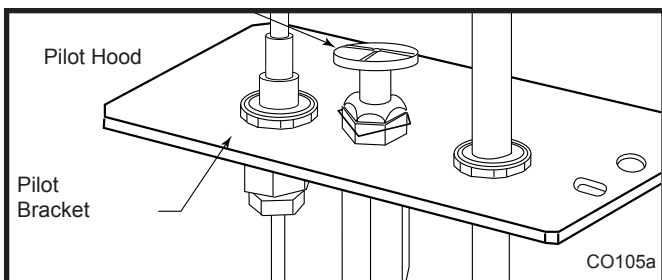

Fig. 52 Remove pilot hood.
- Remove pilot hood by lifting up. (Fig. 52) Do not remove snap ring to remove pilot hood. **NOTE:** It is not necessary to remove the pilot tube for conversion.